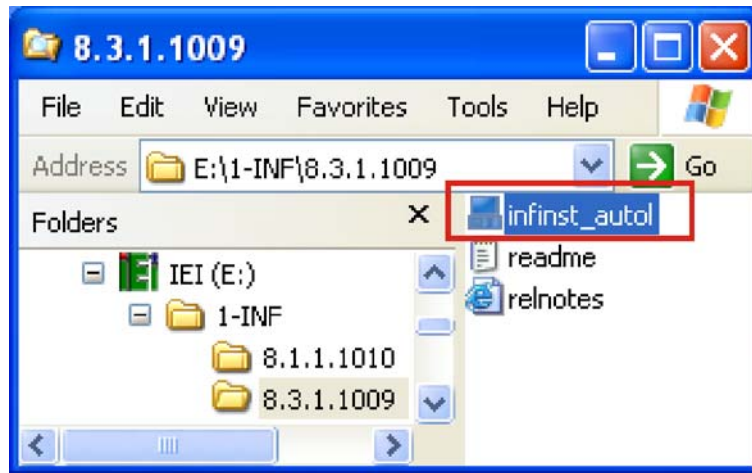

Figure 7-3: Chipset Driver Installation Program
Step 7: Browse to the directory shown in **Figure 7-3**.